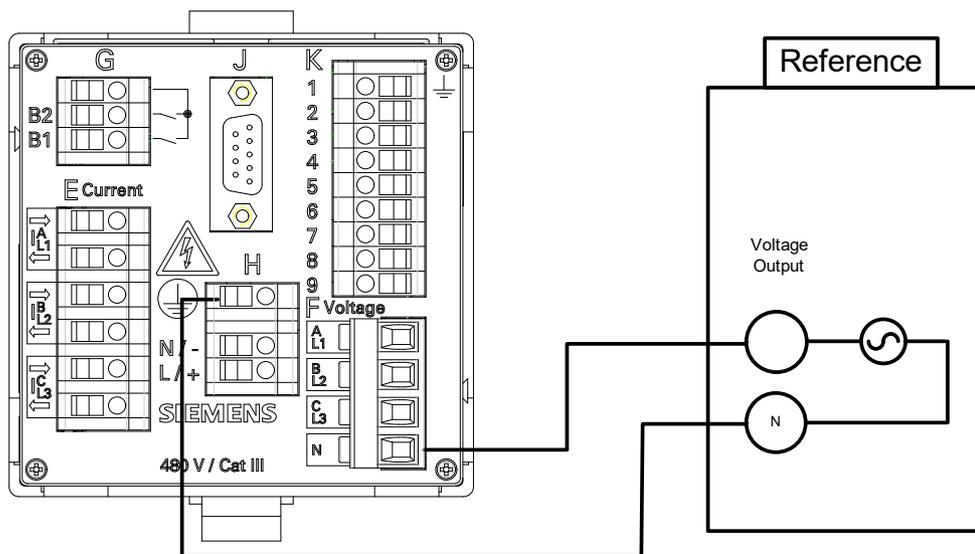
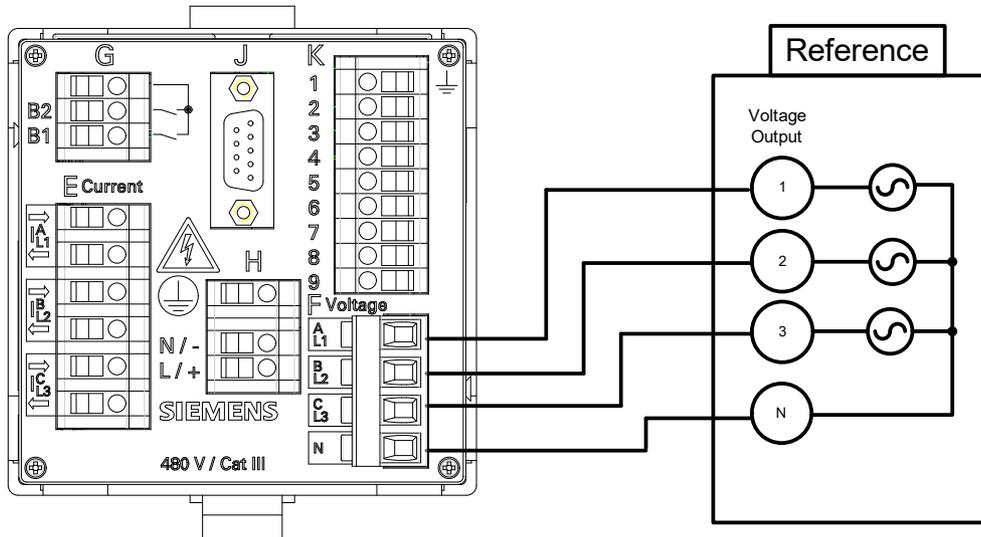

Figure 11-7 Measurement Setup for Calibrating VN
Figure 11-10 Measurement Setup for Calibrating VN
- ◇ Set up the measurement as shown in Figure 11-7 or Figure 11-10, acc. to device version.
- ◇ Set up the measurement as shown in Figure 11-10.